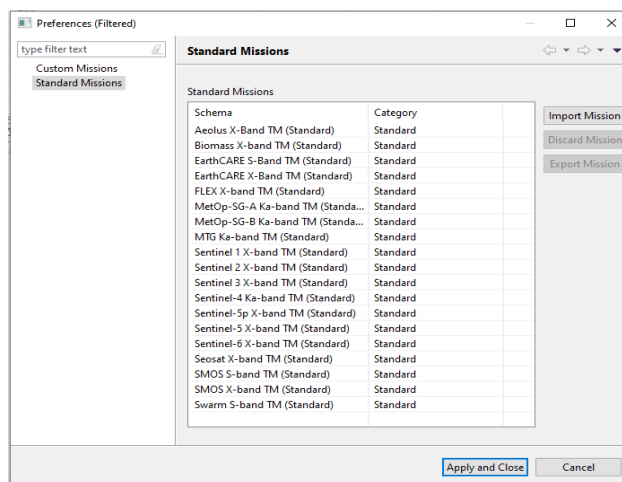

Figure 27: Mission Configuration
S2G enables the use of customized missions, loading their data at startup. This functionality is available by activating the menu item “Edit” → “Mission Configuration” (shown in Figure 27). The user is able to: export an existing mission (to have access to the defining files); import a new mission; and discard an existing mission. From the point of view of S2G there are two categories of mission definitions: the standard missions and the custom missions.
1. Launch the Mission Configuration dialog through menu “Edit” → “Mission Configuration” (Figure 27)